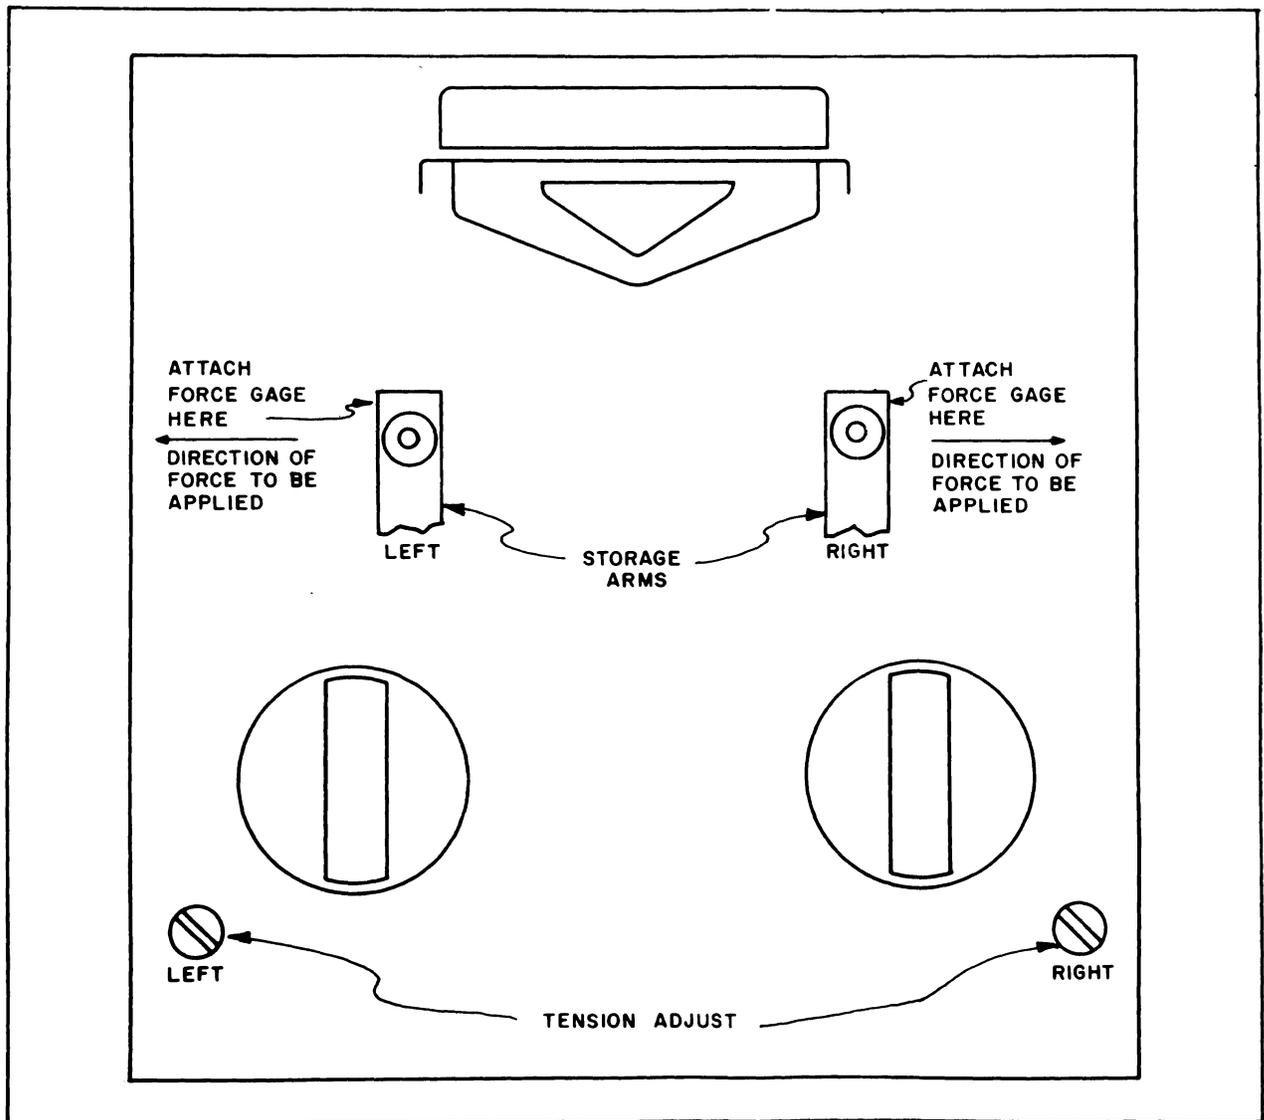

Figure 5-8. Storage Arm Tension Adjust
5-5-2. **STORAGE ARM TENSION (POWER OFF).** This procedure is applicable to both left and right storage arms. Their respective tension adjustment screws are located in figure 5-8.
- b. Move storage arm to approximately center position of its travel and attach force gage indicated in figure 5-8.